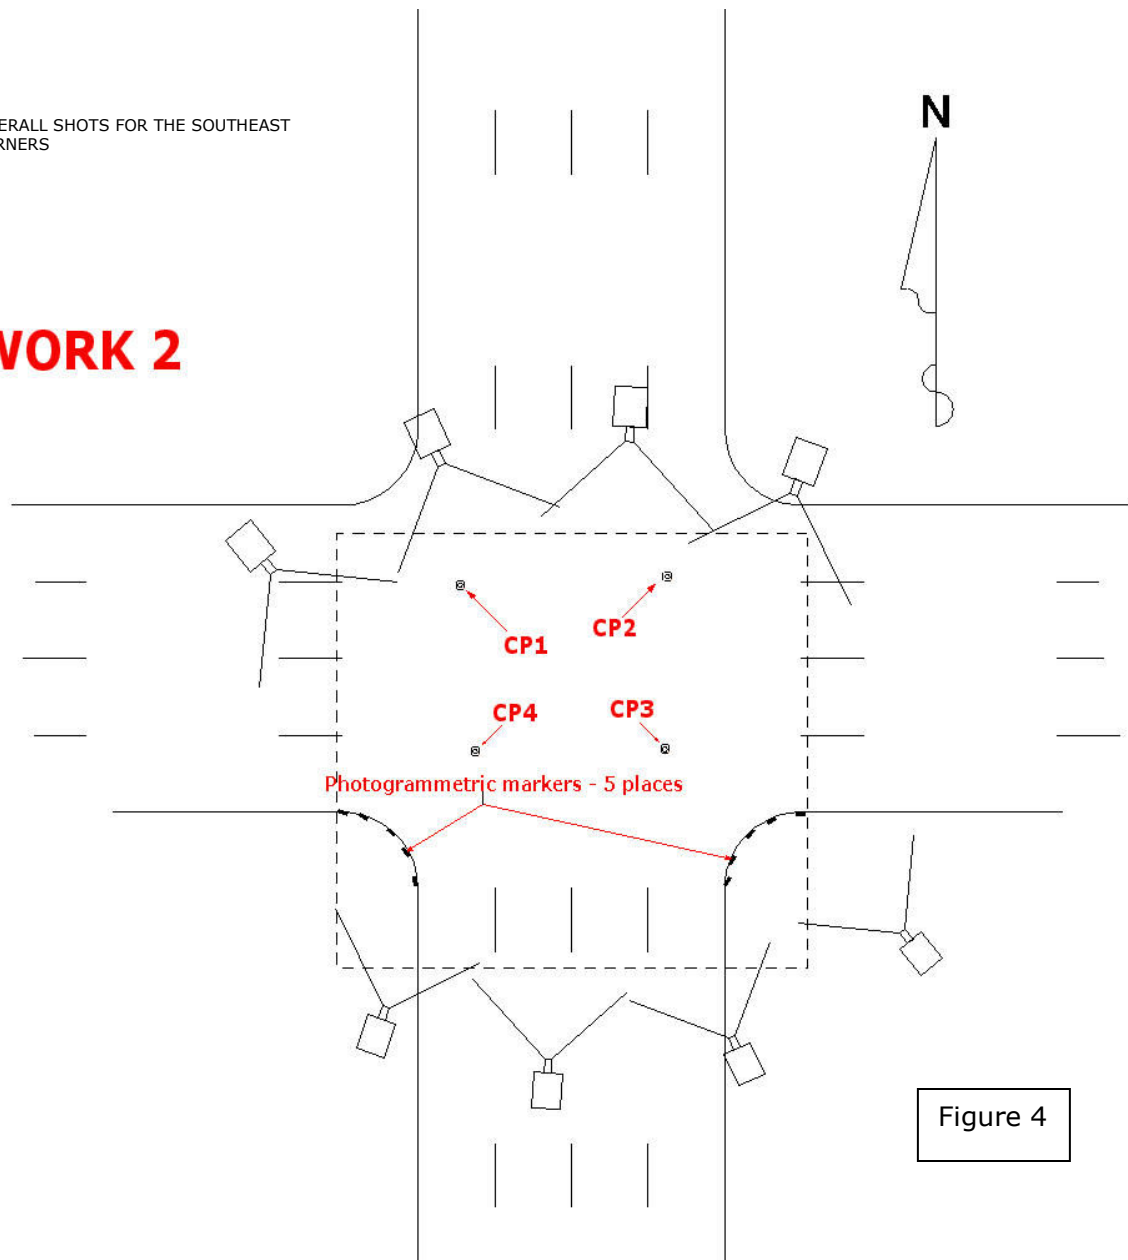

Figure 4
**Figure 3** and **Figure 4** are expanded views of Figure 2 for ease of reviewing. The PMs are noted as thick black lines on the radius corners of the street intersection.